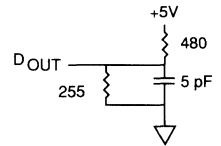

Fig. 2 OUTPUT LOAD EQUIVALENT
- tHZCE and tHZWE are specified with CL = 5pF as in Fig. 2. Transition is measured ± 500mV from steady state voltage, allowing for actual tester RC time constant.